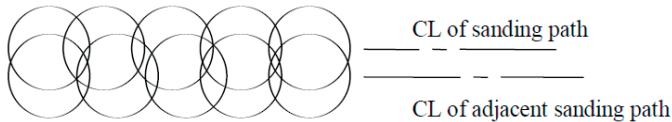
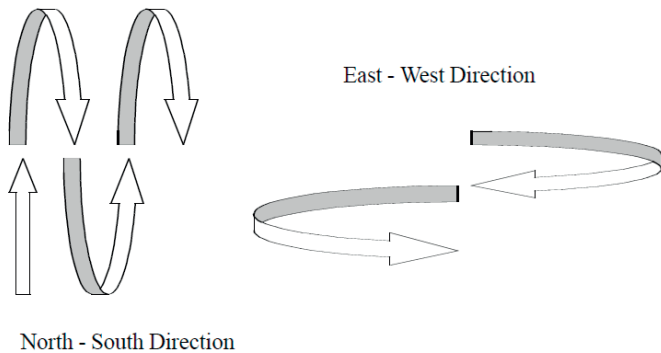

FIGURE G-1
FIGURE G-2
2. Sand the entire top to a uniform finish. Be sure to overlap sanding strokes by at least half the pad diameter and cover the entire surface. See Figure G-1. Care must be taken not to concentrate too heavily over the seam area, as this may develop a different look in this area (especially with particulate colors).
The pattern shown in Figure G-1 should be followed across the sheet in a “North - South, East - West” pattern as shown in Figure G-2. The patterns should be followed three times for each grit level.